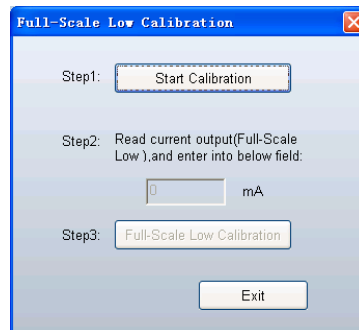

Figure 31
3. The whole procedure is implemented in the 4-20mA Calibration. Click the button *Full-scale low(Zero) Calibration* to open the zero calibration window (figure 31). Follow the steps showed in the window to implement calibration. First, click the button *Start Calibration* in step1. Wait till the multimeter outputs a right value, then read the output current value from multimeter after it settled down. Enter this value (three significant decimal digits) into the text area in step2. After that, click the button *Full-scale low Calibration* in step3 to download. Click Exit to exit the zero calibration.